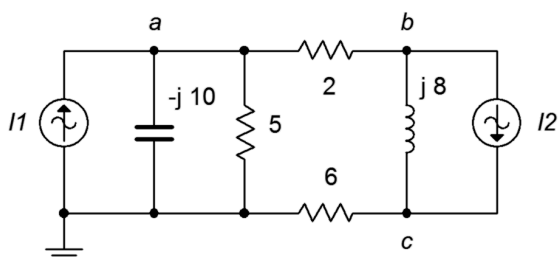

Figure 5.11
21. In the circuit of Figure 5.11, Use Superposition to find v_{bc} . $I_1 = 10\angle 0^\circ$ and $I_2 = 6\angle 0^\circ$.
22. In the circuit of Figure 5.11, Use Superposition to find the current flowing through the $2\ \Omega$ resistor.